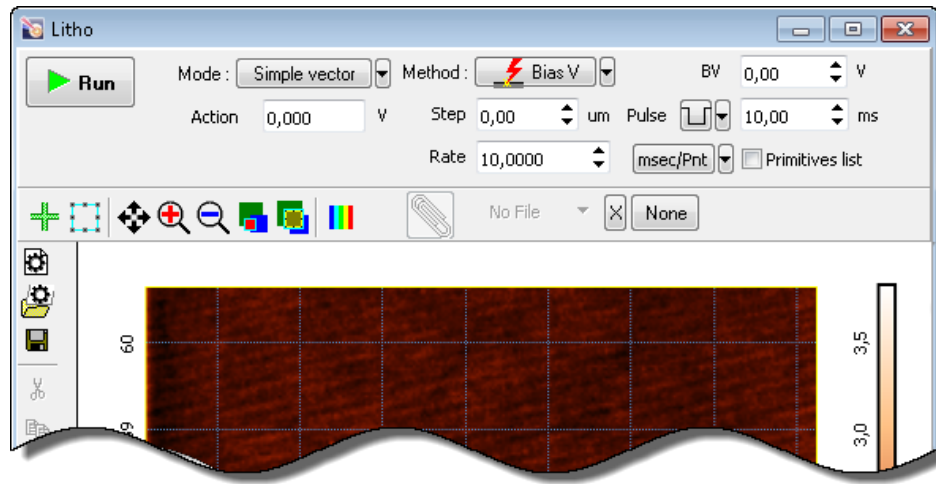
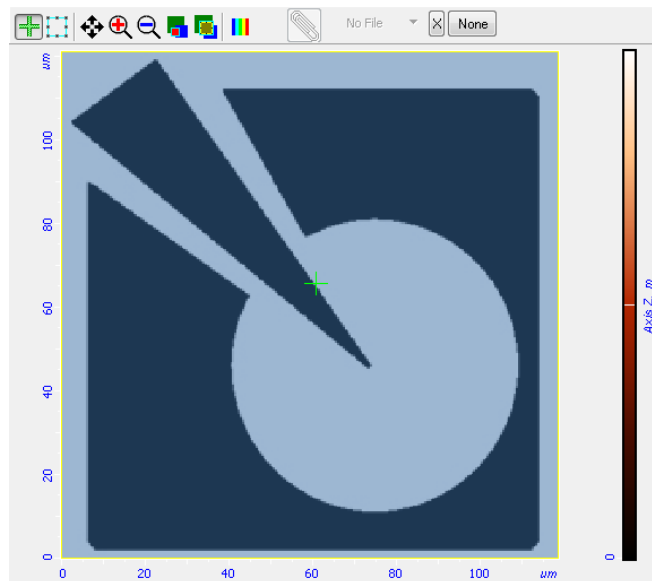

Fig. 12-49. Litho window
Fig. 12-52. Template for raster lithography is loaded
2. Open the **Litho** window by clicking the  button (Fig. 12-49).
To load a lithography template, click the **Select Litho Image**  button in the Control panel of the **Litho** button (see Fig. 12-49). This will open the standard **Open** dialog. In this window, select the desired file and click the **Open** button. The template image will appear in the **Litho** window (Fig. 12-52).